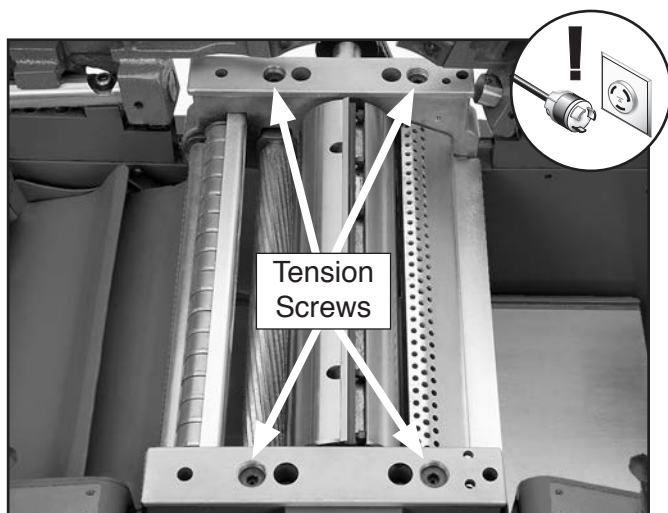

Figure 78. Spring tension screws.
2. Adjust tension screws shown in **Figure 78** counterclockwise so that they are 5–7 turns below top of head casting.